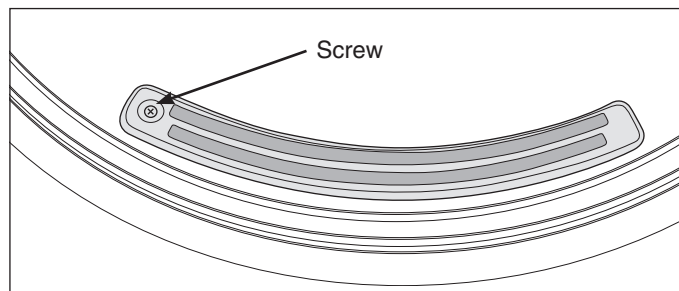

Figure 4-26.
2. Disconnect the electrical leads from the sensor bar terminals. (See Figure 4-26)